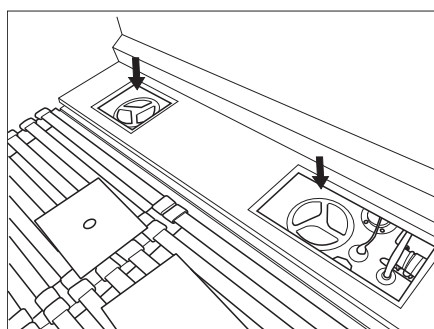

Fig. 62 Cleaning openings fresh water tank (illustration similar)
- Screw out and remove the cleaning openings (Fig. 62).